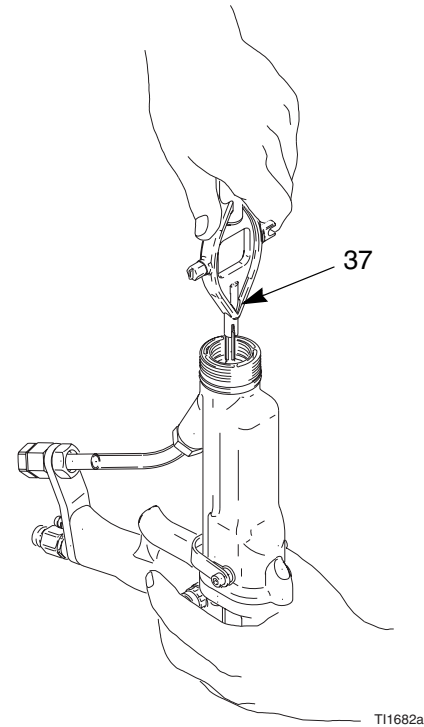

Fig. 25. Electrode Replacement
3. Unscrew the electrode (29) with the multi-tool (37). Hold the packing rod end (26h) to prevent it from turning, FIG. 25..